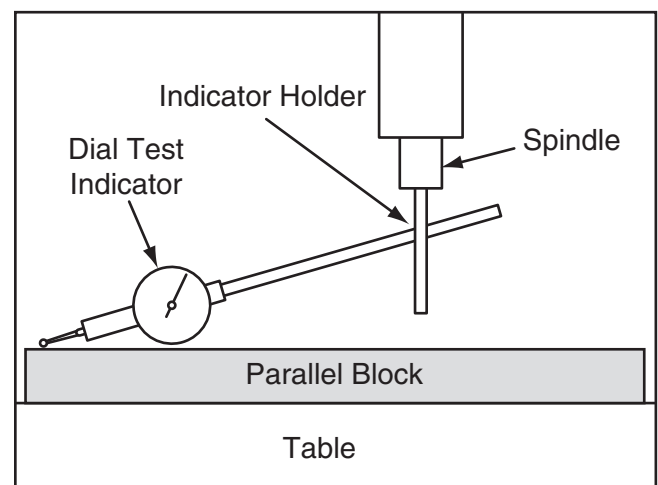

Figure 70. Dial test indicator mounted.
4. Install the indicator holder in the spindle or on the quill, then mount the indicator so that the point is as parallel to the block as possible (see the illustration in **Figure 70**).
6. Rotate the spindle by hand so that the indicator point rests on one end of the parallel block, as illustrated in **Figures 70–71**, then zero the dial.